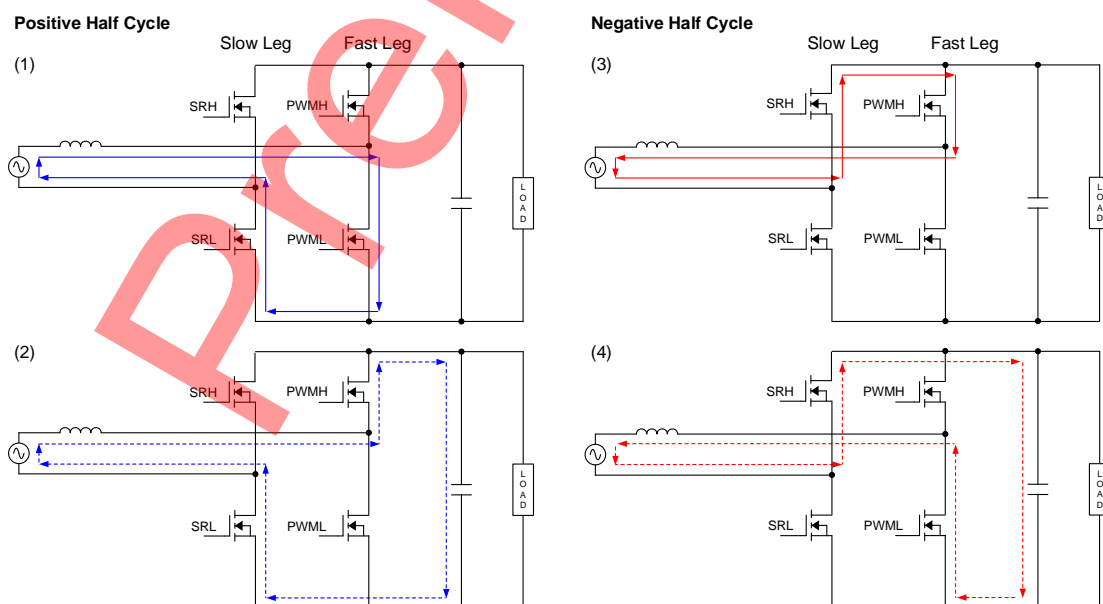

Figure 4. Cycle operation
The TPPFC operates with bidirectional current flow in the inductor, and the command of the fast and slow leg switches change depending on the polarity of the AC line cycle. Operation of the TPPFC during the positive and negative half line cycles is shown in Figure 4. Cycle operation.
PWML toggles high turning on the low side fast leg device, allowing current to charge and store energy in the inductor, as shown (1) in Figure 4. Cycle operation.
When the PWML signal toggles low the inductor current diverts through the high side fast leg switch, transferring energy from the inductor to the load, as shown (2) in Figure 4. Cycle operation.